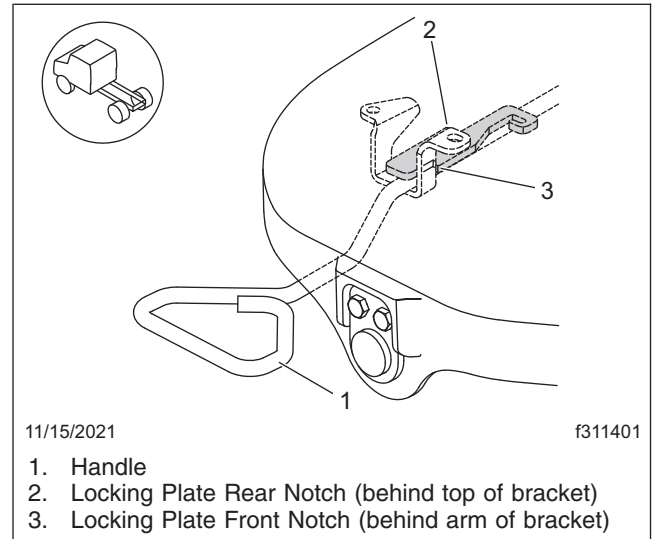

Fig. 17.16, Holland FWAL Handle Fully Retracted
- Verify that the handle is fully retracted as shown in Fig. 17.16.